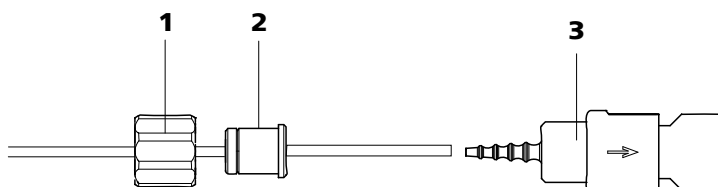

Figure 28 Install pump tubing connection with filter
- **Case A:** a 6.2744.180 pump tubing connection **with filter** (see figure 28, page 49) or